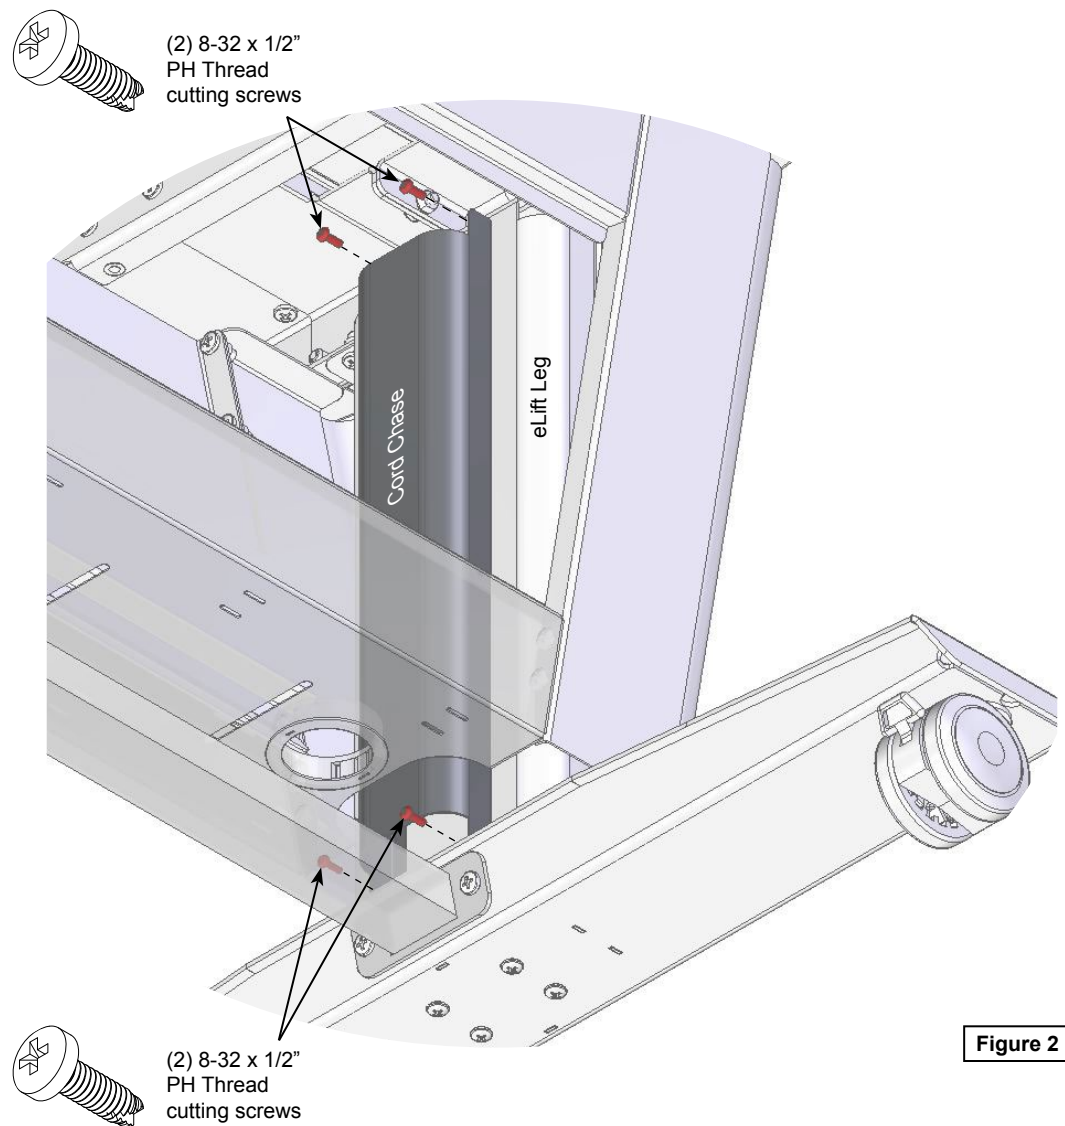

Figure 2
2. Orient the cord chase as shown in **Figure 2**.
3. Align the mounting holes and attach with (4) 8-32 x 1/2" PH thread-cutting screws.